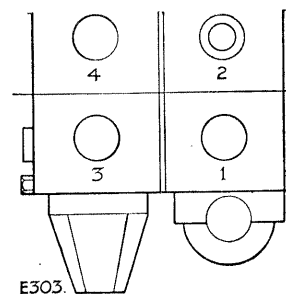

Fig. T-19—Rear view of control valve showing positions of adaptors and union
25. Before fitting the hydraulic control valve to the heel board, fit a brass union and washer and adaptors complete with bonded seals to the control valve. Temporarily cover unions and adaptors for protection against damage and dirt. See Fig. T-19 for fitting adaptors and the brass union.